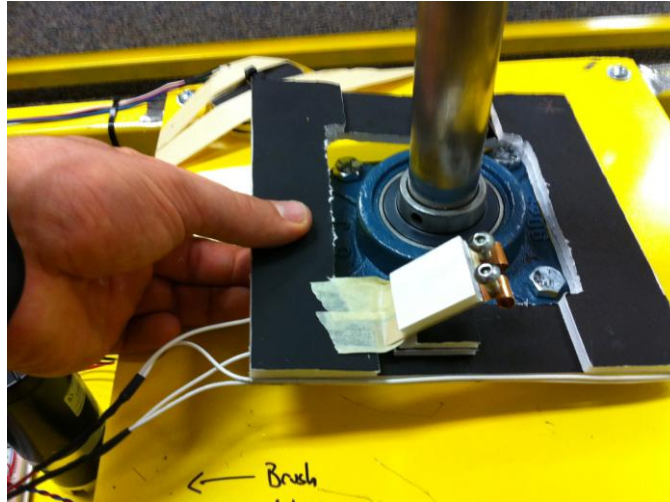

Figure 12 – Removal of brushes from test stand
- a. Carefully lift one side of the brushes assembly and remove it from the top flange bearing, as shown in Figure 12.